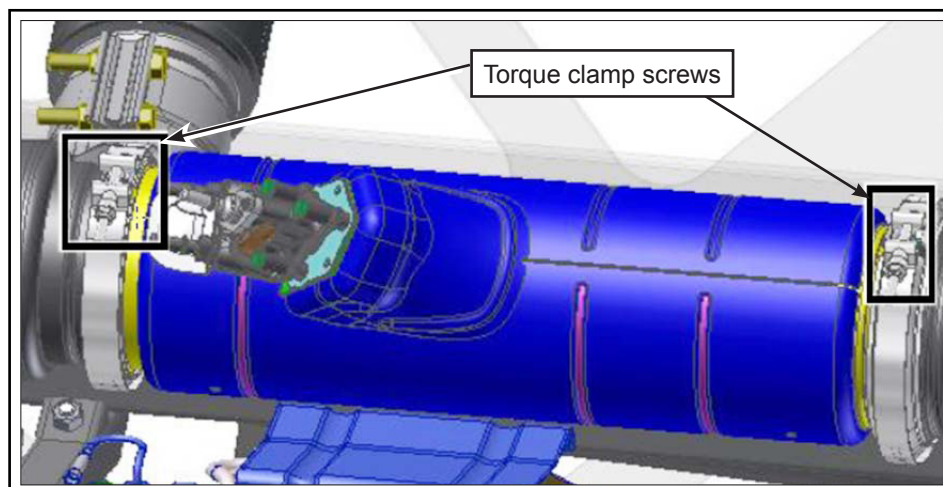

Figure 7 - Tighten the clamps
- 1.8. Tighten the clamps by applying the torque value of $14 \pm 1 \text{ N}\cdot\text{m}$ (see Figure 7).